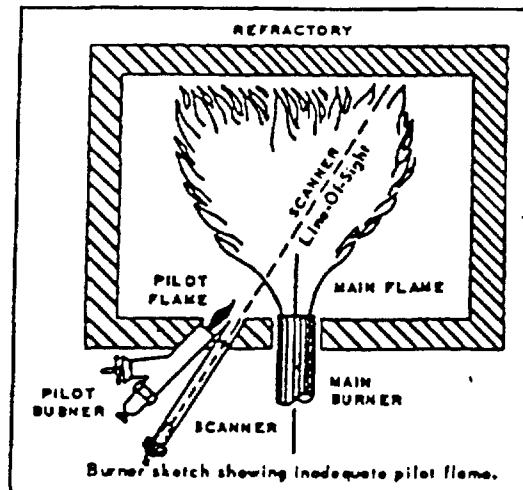

Figure 20
17. Reduce the size of the pilot until the flame relay is observed to drop out, then slowly increase the size of pilot flame just to the point where the flame relay pulls in. This is called minimum pilot. (Note Figs. 20, 21, 22)